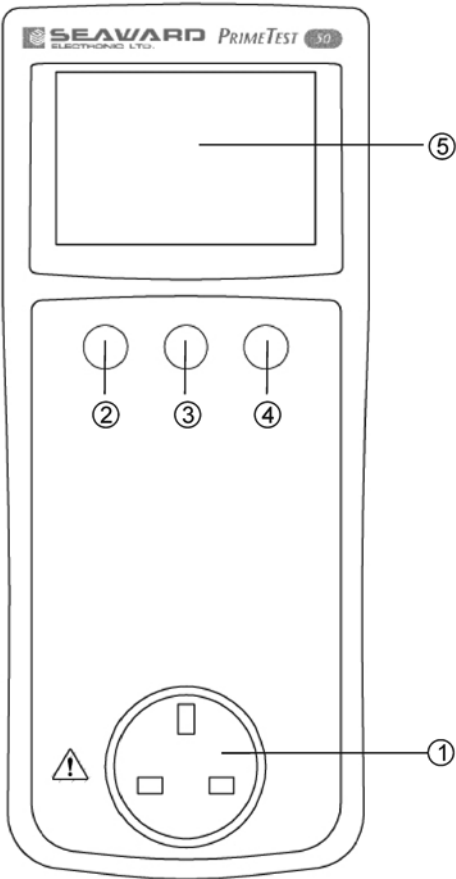
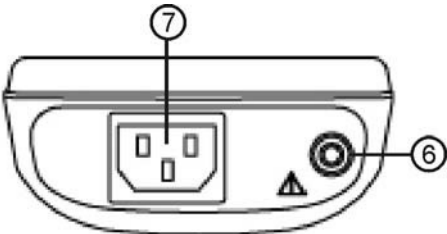

Figure 1. PrimeTest 50 Front View
Figure 2. PrimeTest 50 End View
**Numbers shown in circles e.g. ① refer to figure 1 and figure 2 on page 6.**
- Mains socket on front panel ① for connecting the appliance under test.
- 4mm socket on end panel ⑥ for earth test probe
- IEC socket on end panel ⑦ for mains cord testing.